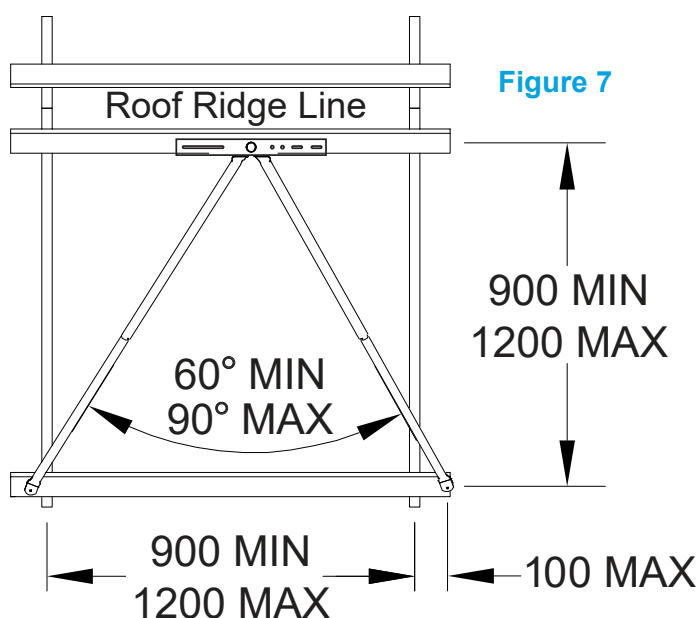

Figure 7
- Rafter & Batten Spacings: 900mm to 1200mm (see Figure 7)
Apply a small amount of silicone sealant underneath the bottom face where the two screws affix. Attach the base to the roof with two T17 x 65mm screws (see Figure 7 & 8).